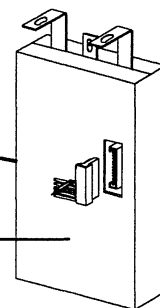

Figure 1-2b - Chopper Harness Location
5. Unplug the wire harness assembly connector attached to the chopper module. Plug this same connector into the receptacle on the PC board portion of the 041461 assembly that came with the kit. See Figs. 1-2b & 1-1.